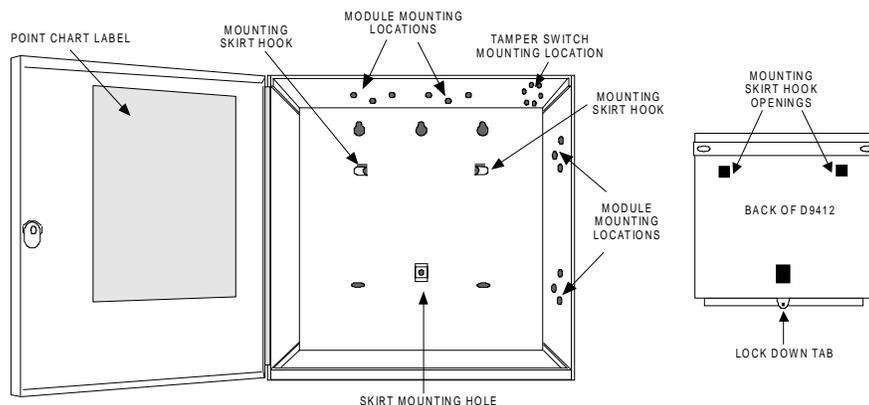

Figure 2: Enclosure Mounting
Mount the enclosure in the desired location. Be certain to use all five mounting holes. See Figure 2.
1. Place the assembly over the inside back of the enclosure, aligning the large rectangular openings of the mounting skirt with the mounting hooks of the enclosure. Slide the assembly down so it hangs on the hooks. See Figure 2.
Use the program record sheet to gather the information you need to fill out the point chart. Install the label on the enclosure door as shown in Figure 2. To avoid smearing your entries on the chart, use the label's peel off backing to press the label in place.